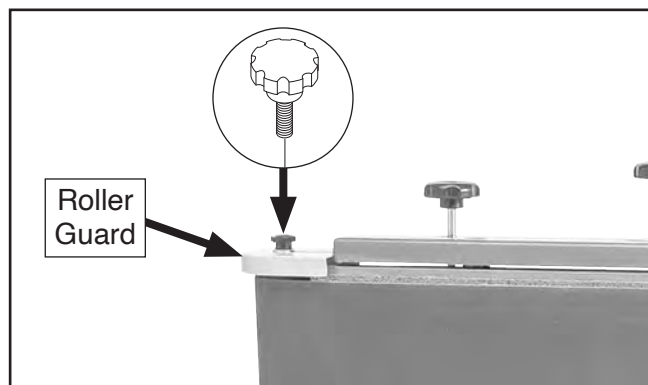

Figure 56. Location of roller guard and knob.
3. Loosen knob shown in **Figure 56** to remove roller guard.